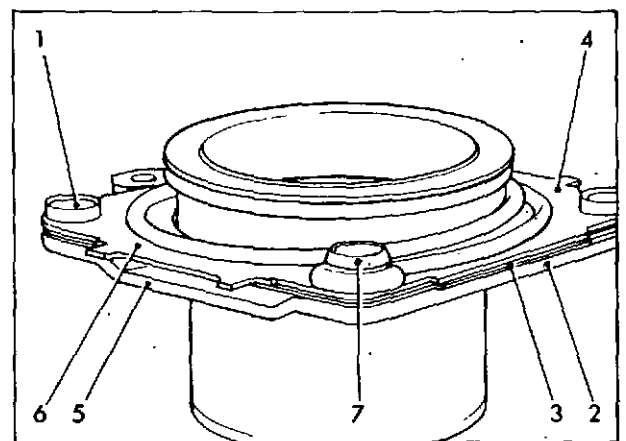

Fig. 14 Renewing switch moving contract
Remove the four rivets (1) fig. 14 holding the 'moving contact' assembly together and this allows the contact (2) and insulator (3) to be removed from the latch plate (4).
Re-assemble with new rivets as illustrated in fig. 14, ensuring that the long insulating bush (7) is passed through the spring eye and is in the shown position.